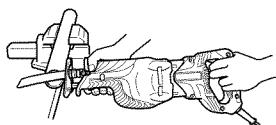

Fig. 20
- (1) Fasten a workpiece firmly before operation. (Fig. 20)